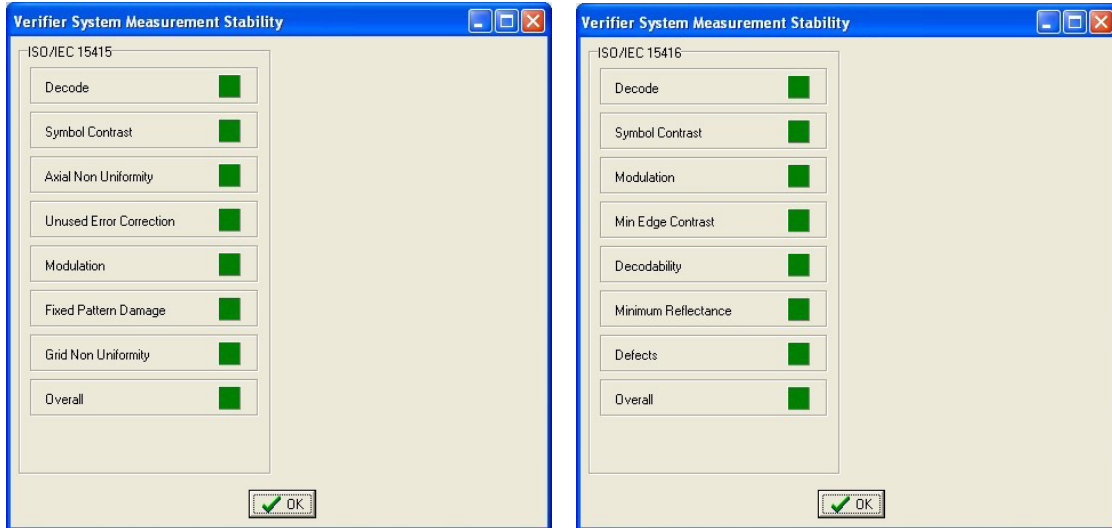

Figure 8 - ISO/IEC 15415 And ISO/IEC 15416 Measurement Stability windows
8. After the final rotation and trigger, the Verifier System Measurement Stability window related to the enabled Standard is showed (see Figure 8 and Figure 9).